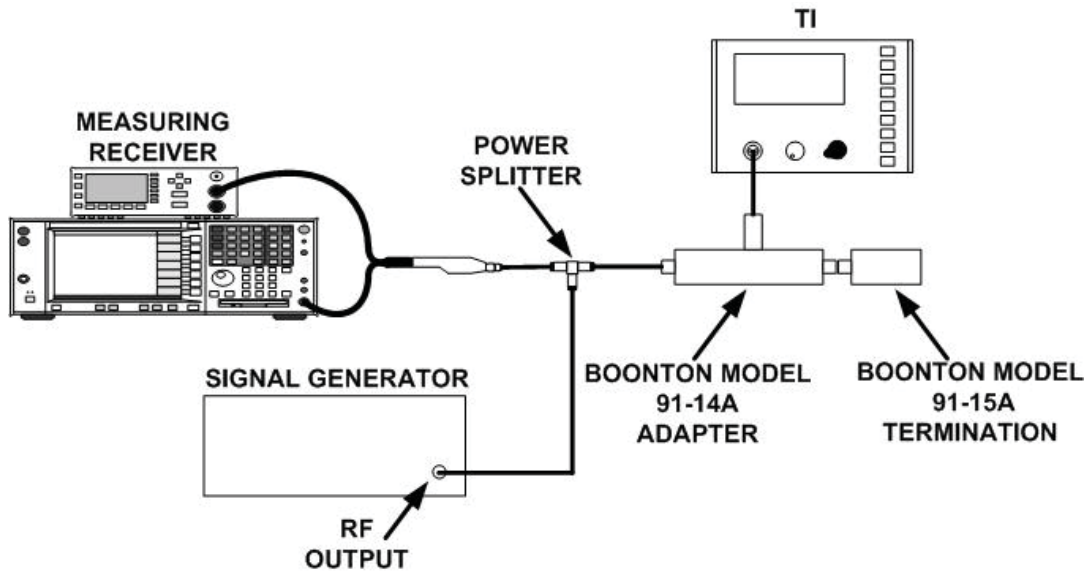

Figure 6. Frequency response - equipment setup.
(15) Disconnect TI probe from calibrator.
(16) Connect equipment as shown in figure 6.
(17) Zero and calibrate the measuring receiver power sensor module.
(18) Set measuring receiver to measure RF power in mV.
(19) Adjust signal generator frequency controls to frequency setting listed in table 15.